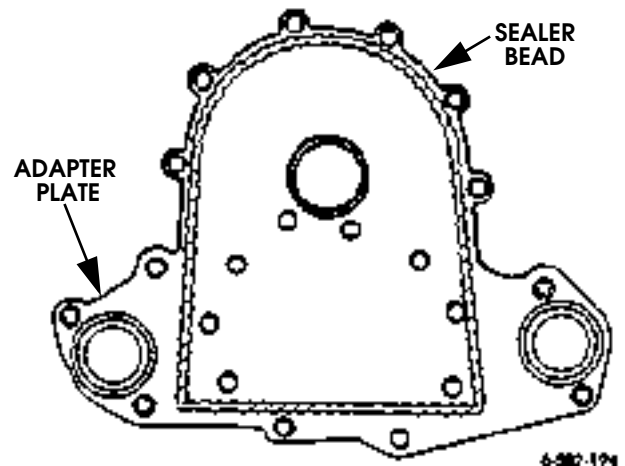

Figure 2-172: Adapter Plate Sealer Application
2. Apply Loctite gasket maker or 510 to contact area of adapter plate as shown (Figure 2-172).